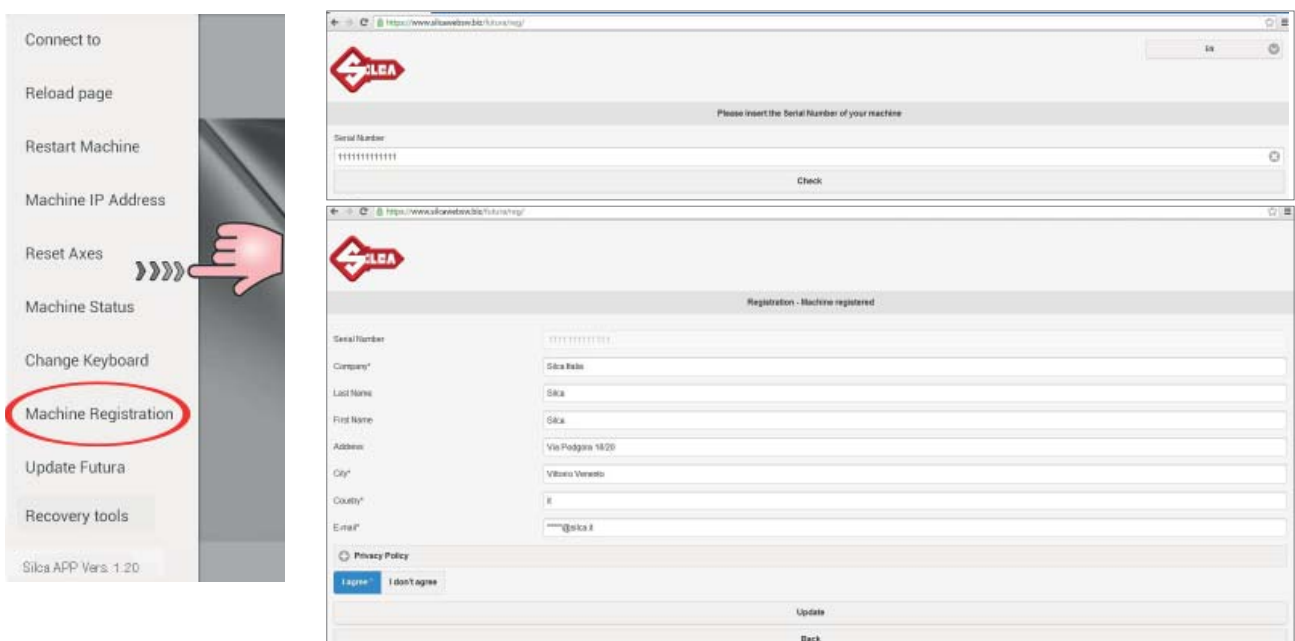

Fig. 19
- Tap “Machine registration” (Fig. 19).